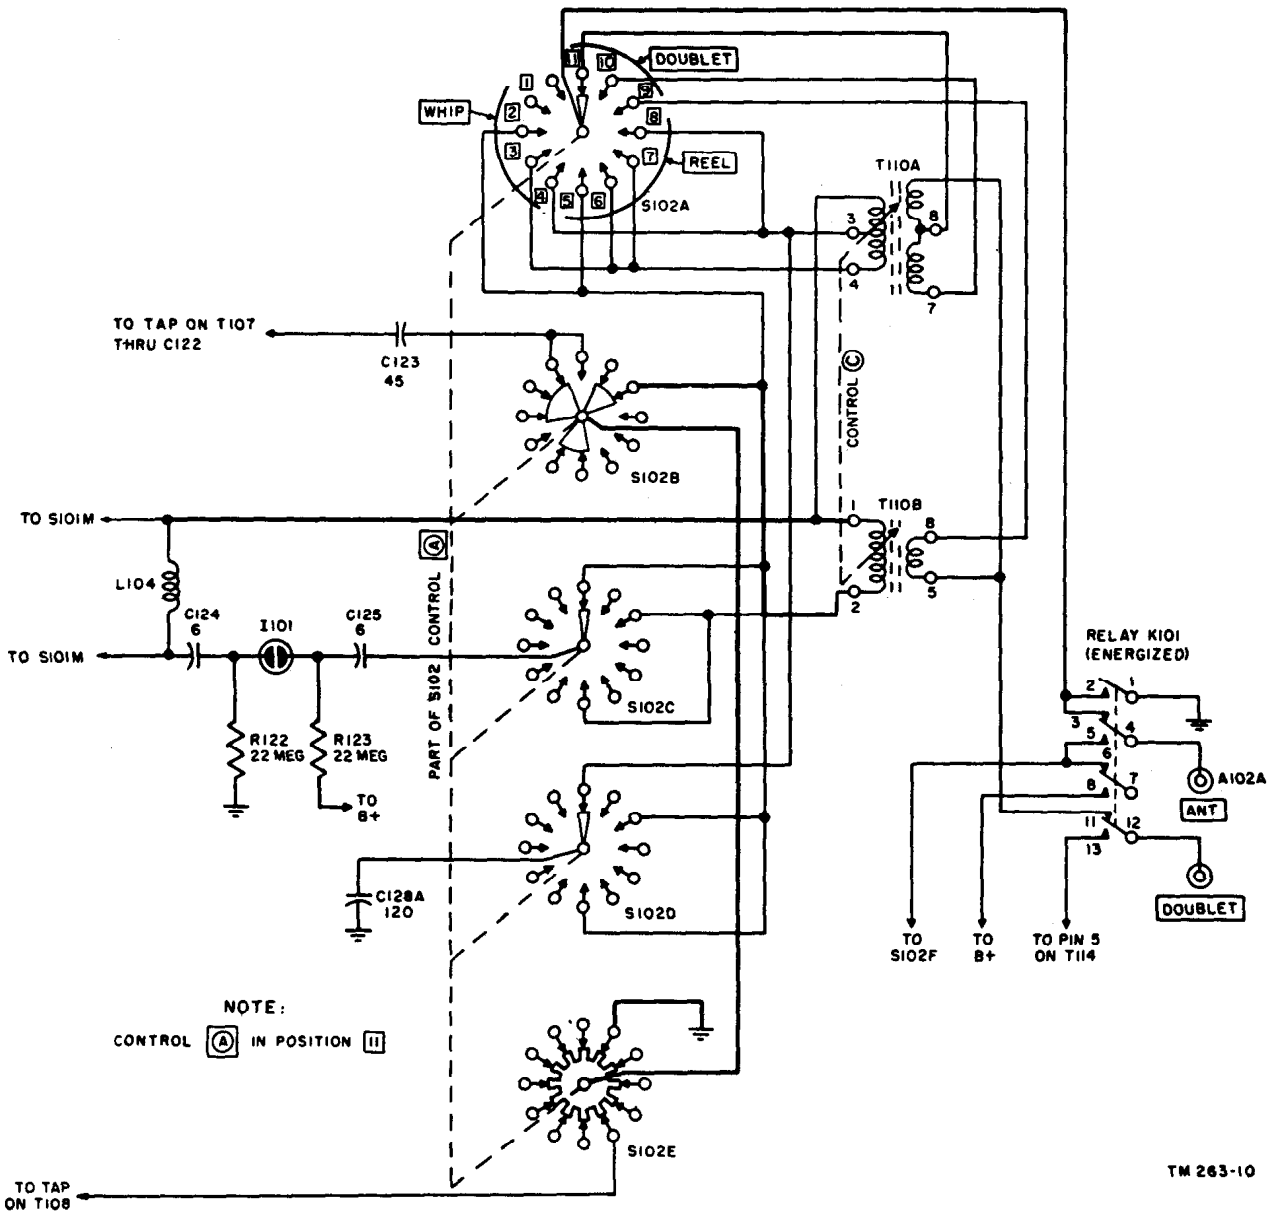

Figure 81. Antenna switching and tuning circuits.
c. *Switch Section S101M.* Plate output selector switch section S101M selects the output from the plate coil in use and leads the signal to the top of L104 in all positions. For the continuation of this figure, see figure 81.
## 110. Antenna Circuit (fig. 81)